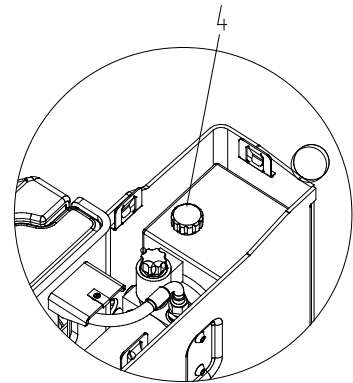

Figure 8
- Refer to Figure 8 and install the tank cover 4 in the attachment onto the tank;